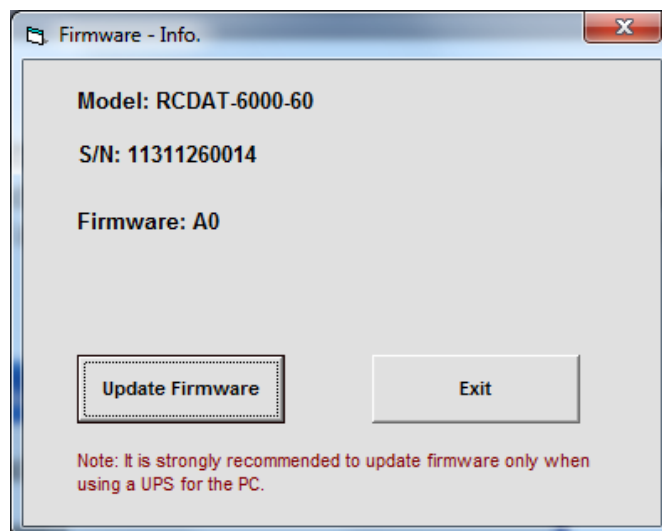

Figure 3.7.4: Firmware Information Window
3.7.4 **The Firmware button will open the** firmware - info window to open (See **Fig. 3.7.4**). The 'Firmware' listed is the version of the firmware installed in your attenuator. Click on "Update Firmware" to select a new firmware version to install or click 'Exit' to close the firmware – info window.